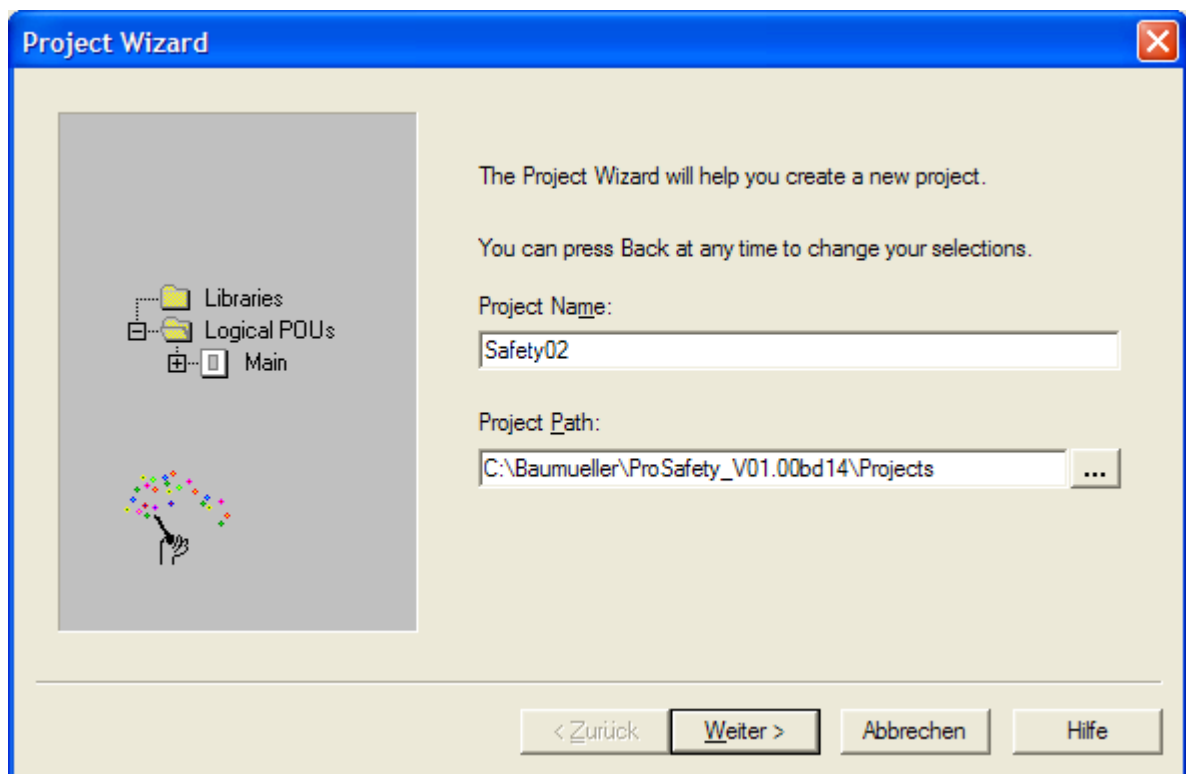

Figure 42: 'Project assistant' dialog for entering the project name and project paths
(see ▶Figure 42◀ on page 67).
- 2 Enter the desired project name ('Safety02') in the first entry field (see ▶Figure 42◀). The project assistant will save the project in the file 'Safety02.swt' and create a sub-folder of the same name in which the code spreadsheets, variable files, etc., are saved.